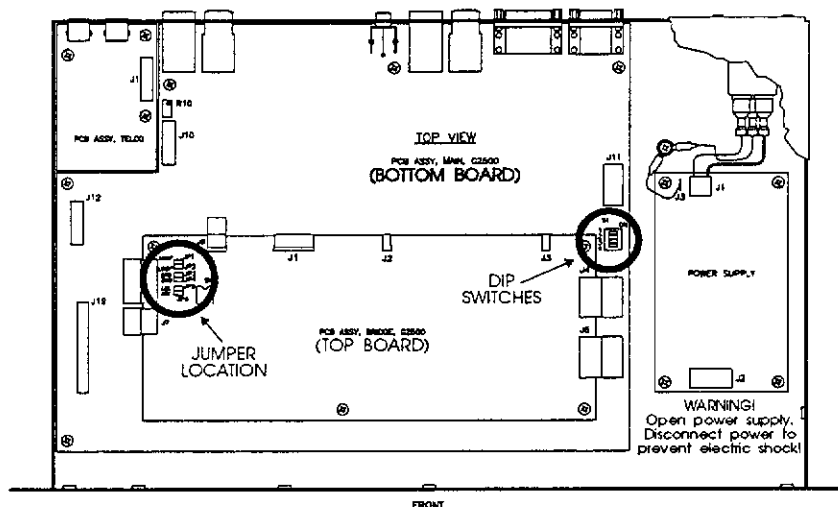

Figure 3
- If a DIP Switch change is necessary for your application, locate the DIP Switches on the PC board as shown in Figure 3. DIP switches are located on the top PC board, near the right edge about midway. The power supply is located nearby.